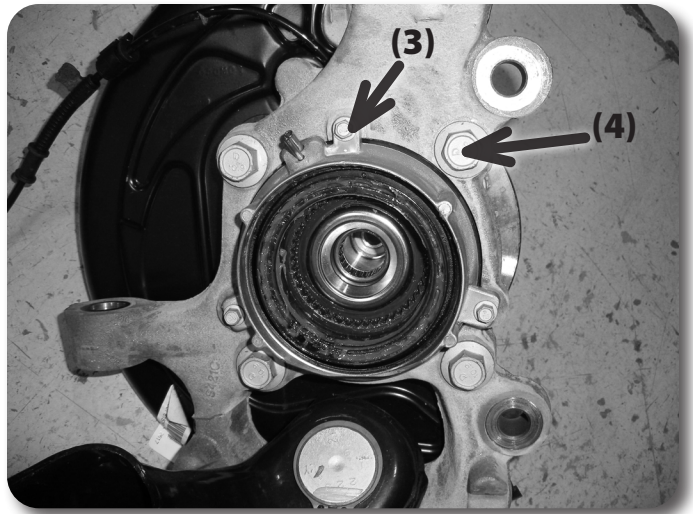

Figure 21
42. Remove the four hub bolts from the knuckle and remove the hub from the knuckle Figure 21. Inspect mounting surface of the hub assembly and clean any dirt or corrosion off as necessary.